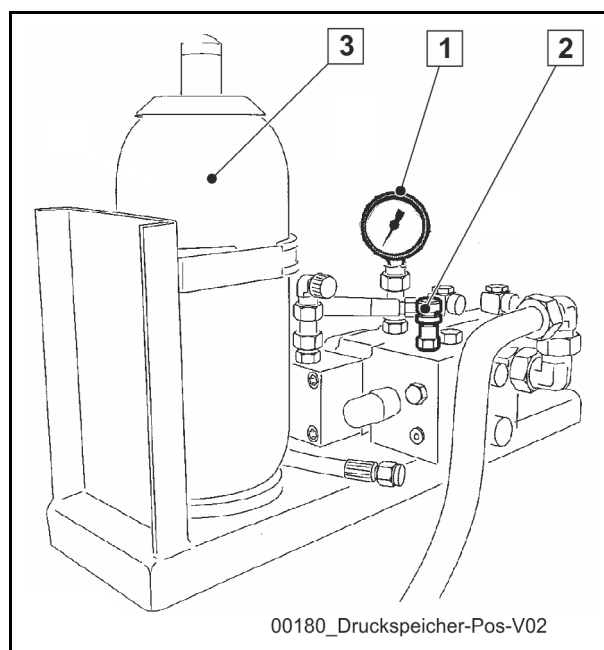
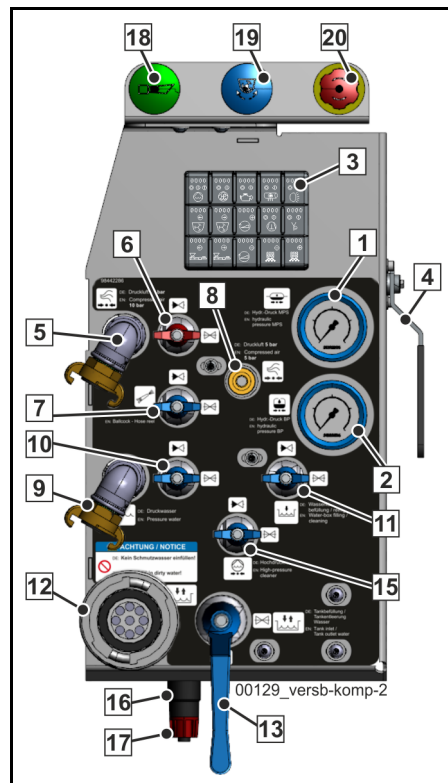

Fig. 305
Fig. 306 (1) Pressure gauge of the pressure accumulator (MPS)
- Monitor the pressure gauge (1) (**Fig. 305**) / (**Fig. 306**).
Depending on machine type, the pressure gauge (1) is located either directly on the accumulator safety block (**Fig. 305**) or at another location easily visible to the operator, e.g. (1) (**Fig. 306**).
- Open the manual accumulator breather valve (2) (**Fig. 305**).
- Read the pressure gauge (1) (**Fig. 305**) / (**Fig. 306**); it should be pointing to 0 bar.